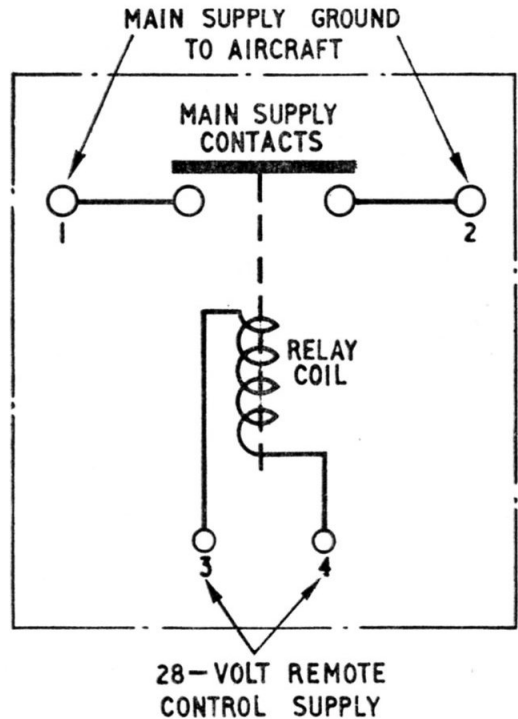

Fig. 2. Wiring diagram
4. When the solenoid, fig. 2 is energised from a 28 volt supply, applied to terminals 3 and 4, the spring loaded plunger is pulled into the solenoid, and the moving bridge contacts close on to the two fixed contacts, against the compression of the moving bridge contact spring, and the plunger return spring. Electrical continuity between terminals 1 and 2 is now complete, and the supply switch is on closed circuit.